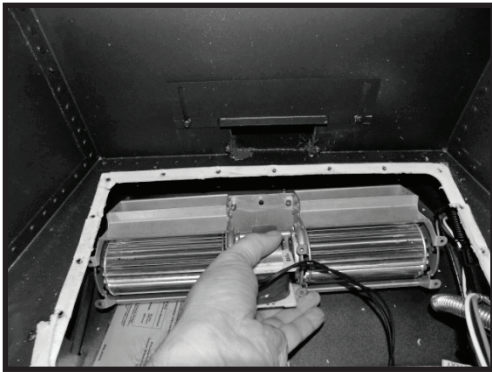

Figure 59
4. The fan is located inside the opening and toward the rear of the firebox. A 3/8" nut holds the fan assembly onto a threaded post. Remove the nut and gently extract the fan assembly from the fire box (Fig. 59) Be careful not to accidentally catch any other wires while the fan is being extracted.